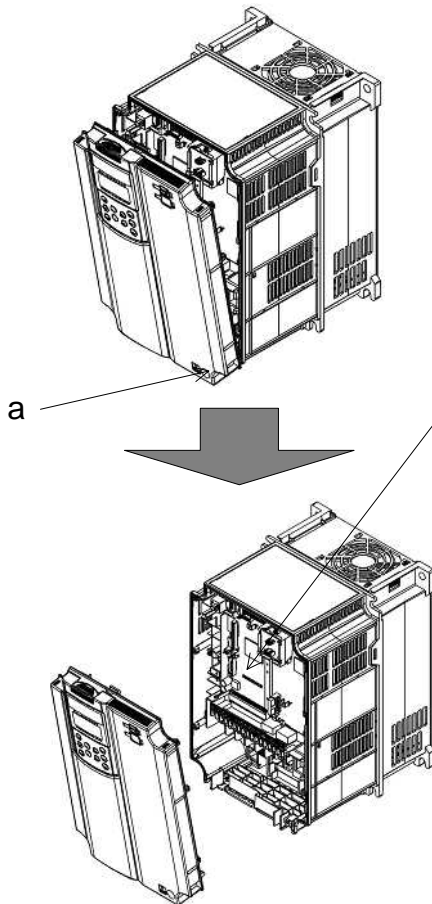

Figure 2.1-1 Removing the Front Cover
As shown in Figure 2.1-1, loosen the cover mounting screw on section "a" and pull out the upper end of the front cover towards you.
- (1) Set three attached spacers "d" onto three locations "a" to "c" of the option mount provided on the control PCB.
- (2) Mount the interface card so that connector CN1 on the card comes to be connected to connector B-port on the control PCB.
- (3) Secure the interface card with three attached screws "e."
- (4) Mount the front cover in the reverse order of removal, referring to Figure 2.1-1 or 2.1-2.
- (1) Mount the digital 16-bit option onto connector D-port provided on the control PCB.
- (2) Secure the digital 16-bit option with two screws "a" (that come with the option) through holes ① and ②, then set four spacers "b" (that come with the option) into holes ③ to ⑥.
- (3) Set spacer "d" (that comes with this interface card) onto location "c" of the option mount provided on the control PCB.
- (4) Mount the interface card so that connector CN1 on the card comes to be connected to connector B-port on the control PCB.
- (5) Secure the interface card with three attached screws "e."
- (6) Mount the front cover in the reverse order of removal, referring to Figure 2.1-1 or 2.1-2.